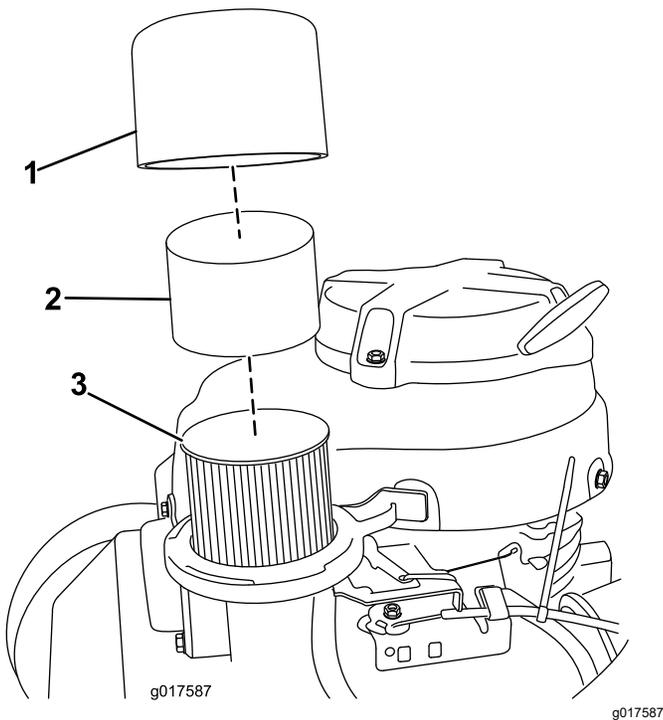

Figure 19
3. Remove the cover and clean it thoroughly (Figure 19).
4. Remove the foam pre-cleaner and wash it with a mild detergent and water, then blot it dry (Figure 19).
5. Remove and inspect the paper air filter (Figure 19); discard it if it is excessively dirty.